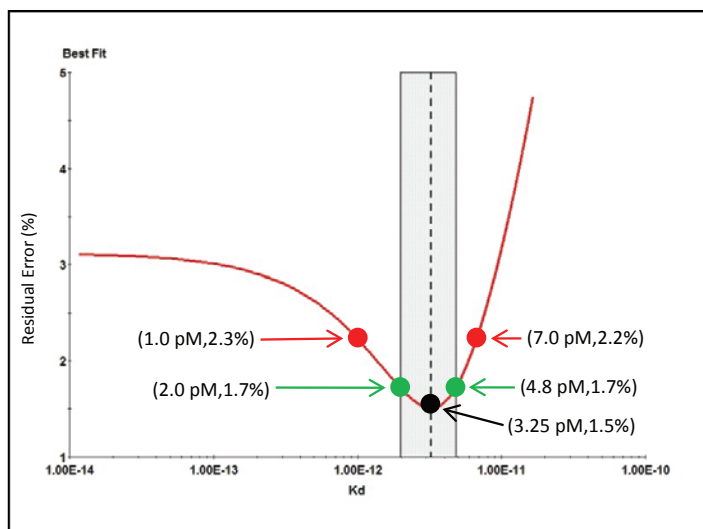
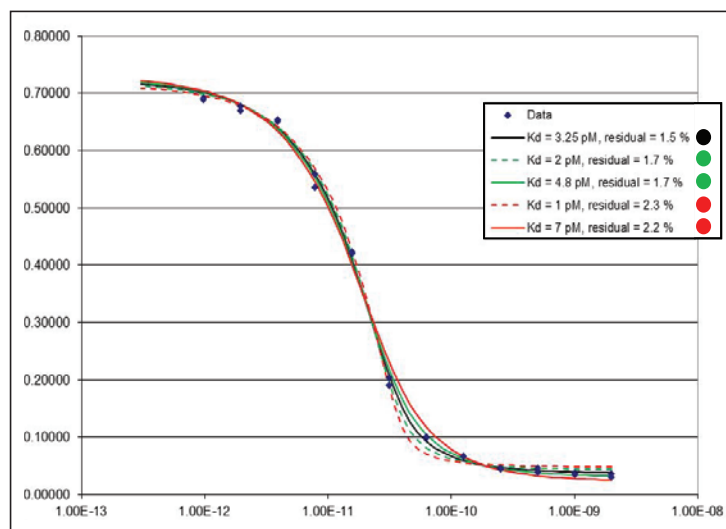

Figure 6. K_d error graph with selected points.
Figure 7. Measured data with corresponding theory curves.
Figure 6 shows a K_d error graph annotated with coordinates of 5 selected points. The 95% confidence interval (CI) is shown by the shaded region and extends from 2 pM to 4.8 pM. **Figure 7** shows the measured data, along with the best fit of the theory, corresponding to the 5 selected points in **Figure 6**. The black line in **Figure 7** is the best fit of the theory to the data and the optimum K_d value found in the fitting is 3.25 pM. The green dashed line shows the best fit found with the K_d fixed at 2.0 pM and the green solid line shows the theory fit with the K_d fixed at 4.8 pM. Both green lines are still a good fit to the data, consistent with the idea the true K_d could be anywhere in this range. The fit at 1 pM and 7 pM are noticeably worse and lay outside the 95% CI.